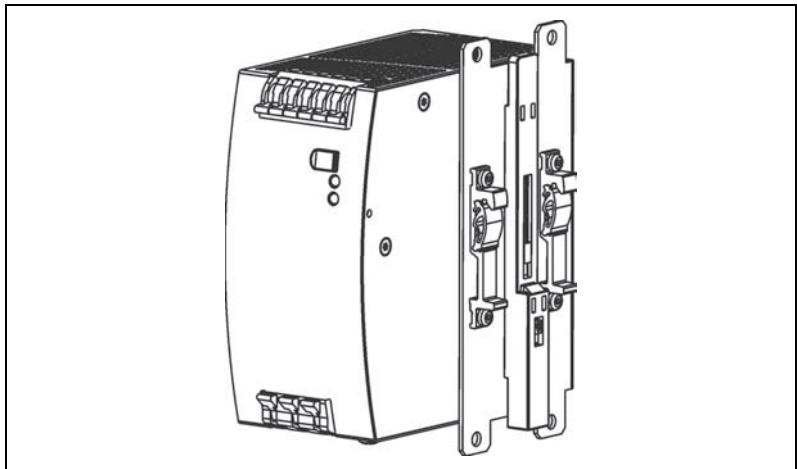

Figure 8. Installing the Aluminum Brackets and Plastic Slider
2. Attach the two aluminum brackets and the plastic slider to the side mounting plate, as shown in Figure 8. The additional required screws are included in the shipping box.